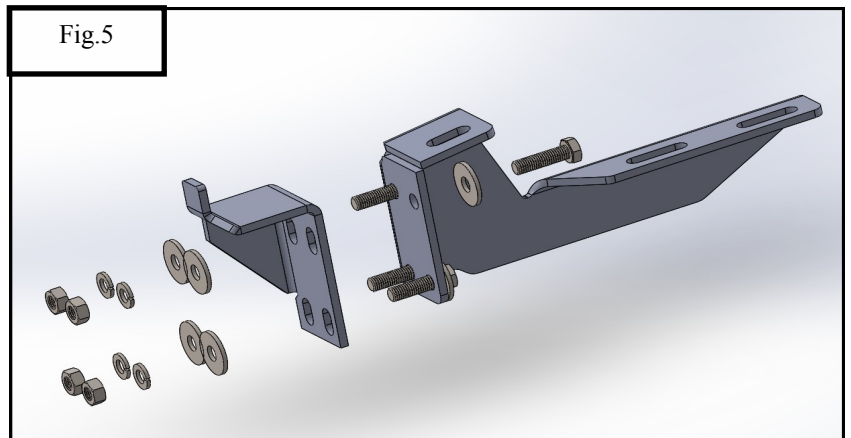

Fig.5
7. Install loosely center and rear mounts (item 3 or 6) to the center and rear threaded stud plates using (1) M8 flat washer (item 11), (1) M8 lock washer (item 12) and (1) M8 hex nut (item 13).
8. Install loosely the clamps (item 4 or 7) to the center mounting bracket using (8) flat washer (item 23), (4) M8 lock washer (item 12), (4) M8 hex head bolts (item 14), and (4) hex nuts (item 13). (Figure 5)